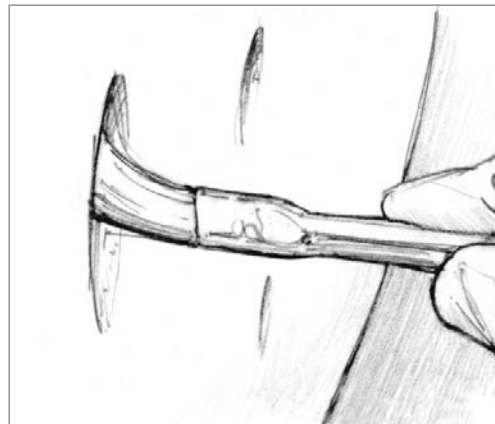

Figure 4-2 Wet out the cleaned blister cavities with unthickened epoxy.
2. Wet out the recently sanded and cleaned blister cavities with an unthickened mixture of WEST SYSTEM® Epoxy (*Figure 4-2*). Use 205 hardener if you are in a hurry. Allow this initial epoxy coat to gel slightly to lessen the likelihood of the thickened epoxy sliding out of the repair. If you are in a hurry, wipe off most of the initial epoxy with dry paper towel or apply moderate heat to accelerate the epoxy's gel.